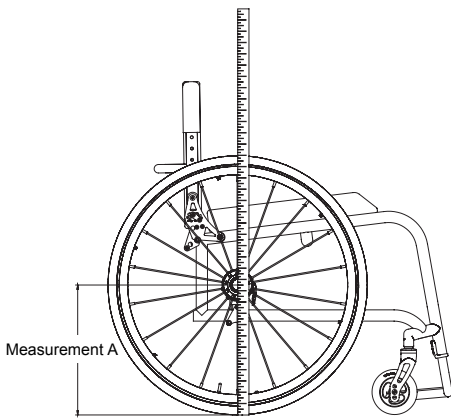

Figure 83
3. Place the chair on all four wheels with the front casters trailing toward the rear of the frame. See Figure 83.
4. Measure from the floor to the center of the axle ("Measurement A"). Be sure the tape measure/ruler is perpendicular to the floor. See Figure 83.